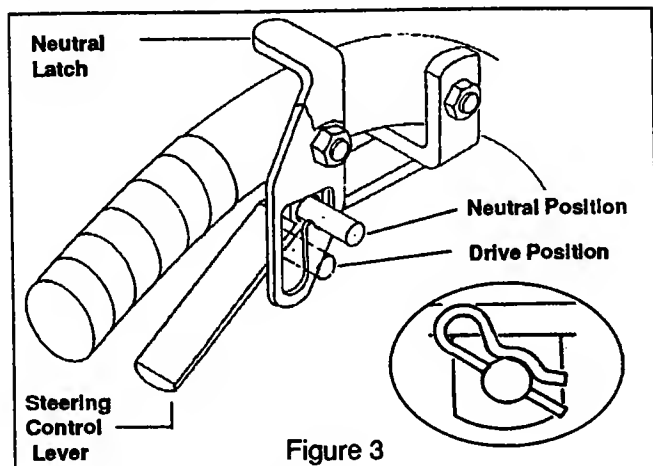

Figure 3
5. Installing steering control rods. Thread rod into swivel joint. Adjust length of rod so that with the handle neutral latch in the neutral position, (See figure 3) the swivel joint is centered in the slot on the bellcrank (See figure 2). This is easily confirmed by wiggling the handle control lever up and down. The bellcrank should not move if the swivel joint is centered in the slot. This is a very, very important adjustment for safe operation!